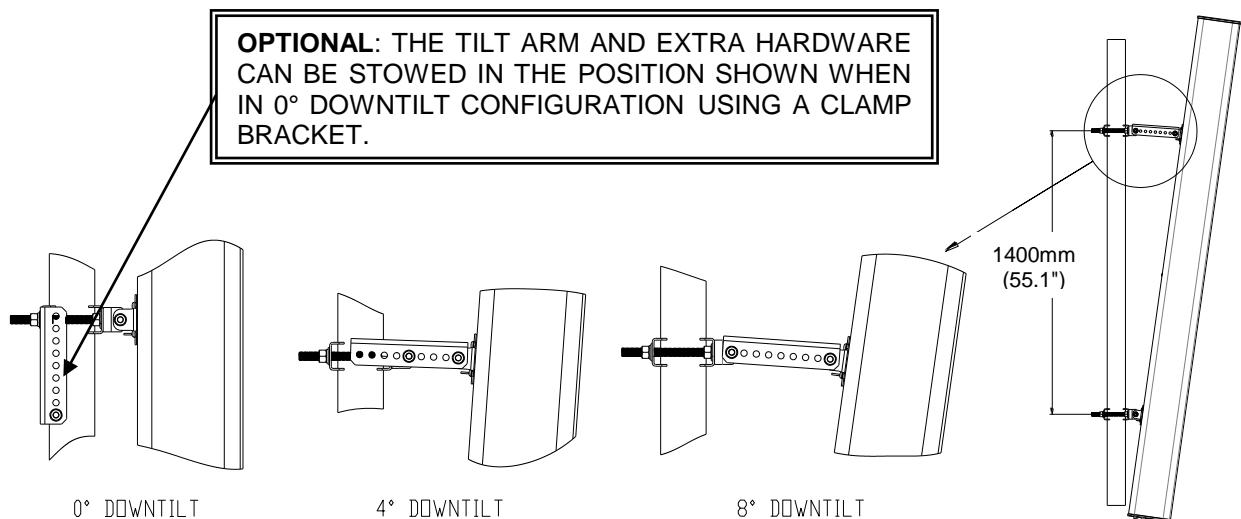

Figure 7: Upper Bracket Placement for Various Downtilts
- 1°- 8° downtilt can be achieved by aligning the corresponding hole in the tilt arm to the pivot bracket which mates against the mounting pole, as shown in Figure 7. The first vacant hole is for 1° downtilt, with each consecutive hole resulting in an increased inclination of 1°.
- For 0° downtilt the tilt arm may be stowed as show in Figure 7.